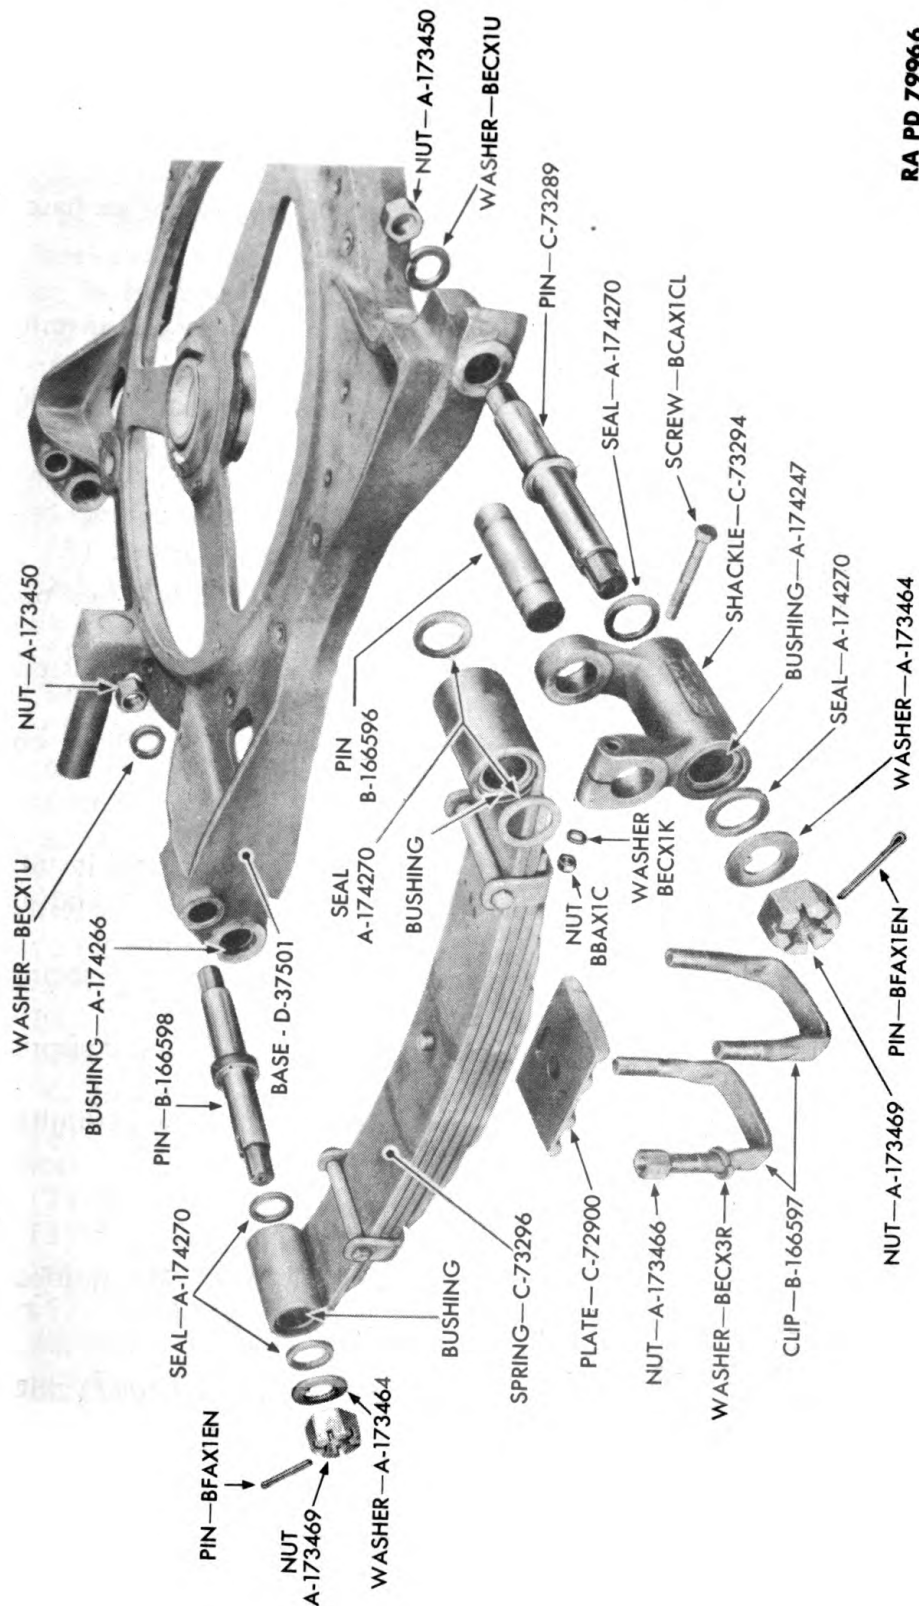

Figure 336—Lumber Spring Parts
(1) Drive spring shackle pin C73289 into limber base and install nut and lock washer that hold pin to limber base.
(2) Drive spring attachment pin into limber base and install lock washer and nut that hold pin to limber base.
(3) Repeat procedure as described in steps (1) and (2) above to install opposite spring attachment and spring shackle pins.
g. Install Spring Shackles on Limber Base (fig. 336).
(1) Install shackle bushing in spring shackle, and install two oil seals in shackle.
(2) Install spring shackle on spring shackle pin C73289 and fasten with washer, nut, and cotter pin.
(3) Repeat procedure as described in steps (1) and (2) above on opposite spring shackle.